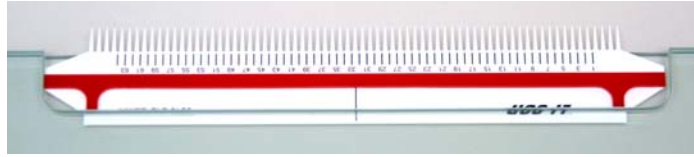

Figure 2-8. Center the comb in the notch and insert the sharktooth comb upside down until the plastic depth gauge rests on top of the notch.
6. Insert the comb. Figures 2-8 and 2-9 show how to insert the mylar sharktooth and rectangular tooth combs after pouring the gel. The sharktooth comb is inserted upside down during polymerization to make a trough which forms the base of the wells, and is then inverted before loading the samples.